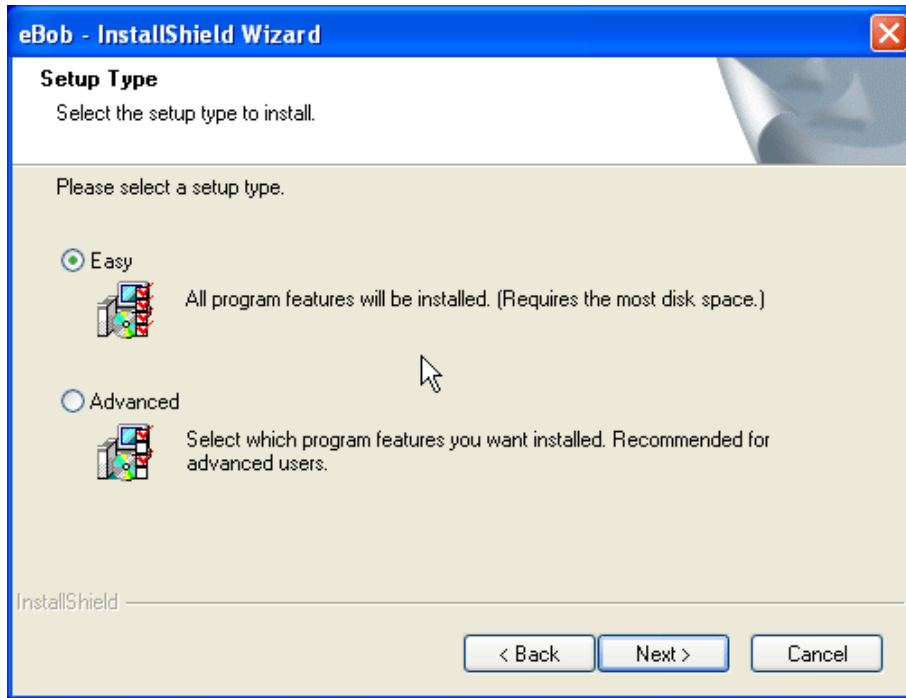

Figure 2
2. Install eBob Workstation using the “Easy” install option (Figure 2). Follow the on-screen prompts as the installer automatically installs and configures the application components for initial use.